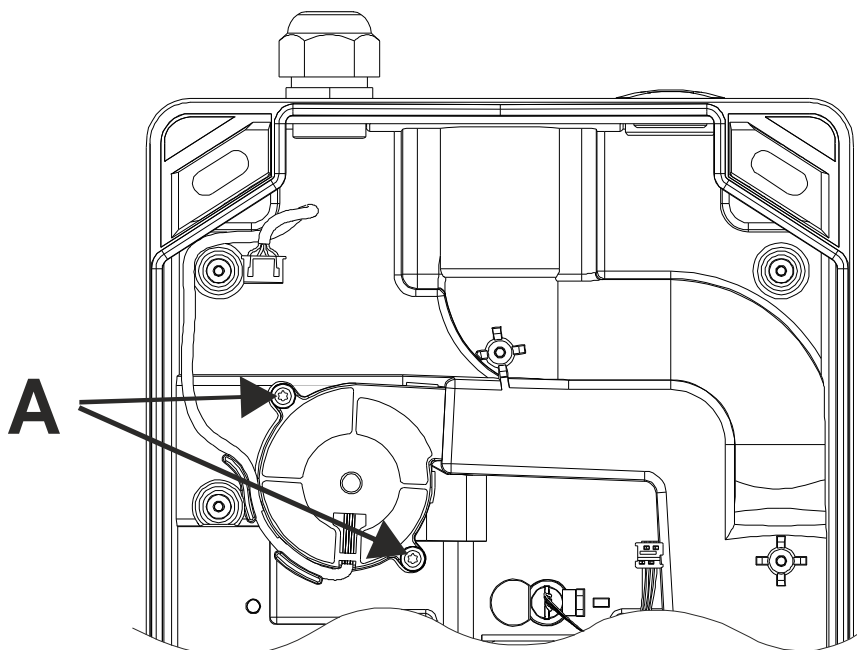

Fig. 50 Removing the aspirating fan unit
- Remove the two screws A of the aspirating fan unit with a Torx T15 screwdriver (see Fig. 50).